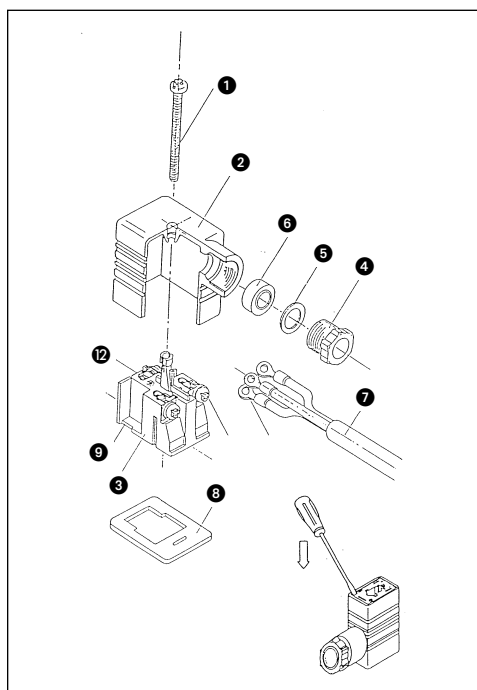

Fig 3
Disassembly (Fig 3)
3. Notch 9 indicated by an arrow is at the bottom of terminal block 3. Insert straight-edge screwdriver in the clearance between housing 2 and terminal block 3, and pry housing 2 off to remove terminal block 3. Refer to Fig 3.
Wiring (Fig 3)